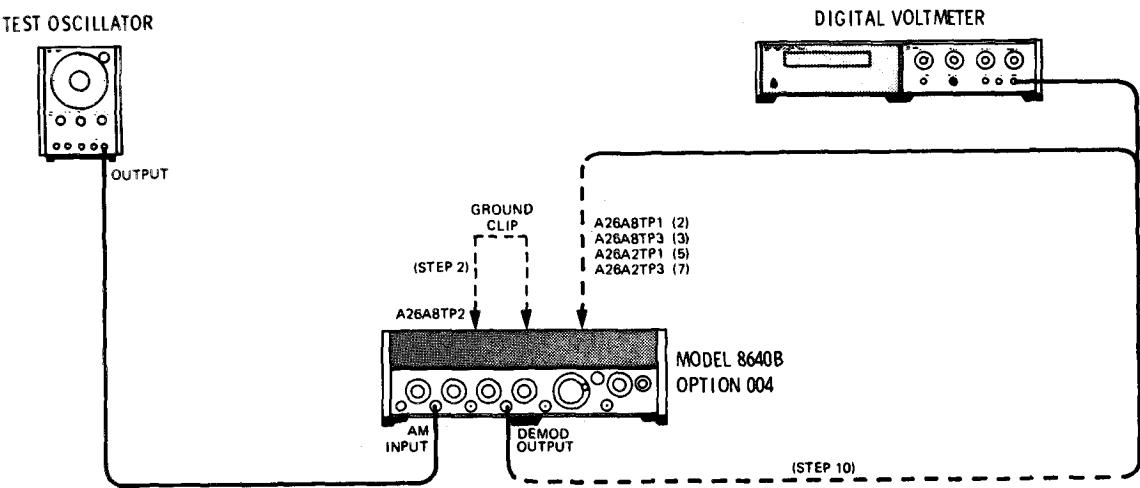

Figure 5-3. Preliminary AM Adjustments
- 1. Connect the equipment as shown in Figure 5-3 after setting the Signal Generator controls as follows: